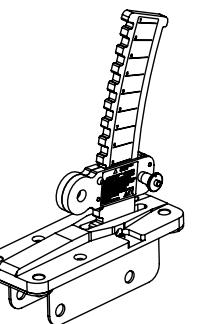

Fig. 4. Remove screws from bracket.
9. Remove the four screws that attach the frame bracket to the base of the ground stack bracket; see Fig. 4.